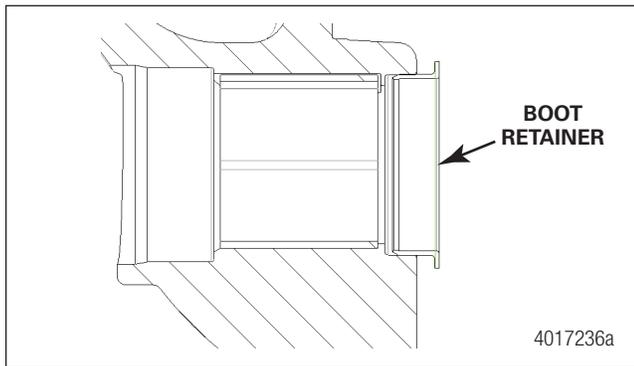

Fig. 8.12 Slide Pin Bushing Retainer
STEP 1 - Place the retainer onto a suitable driver from Meritor tool MST 1000. Figure 8.12.